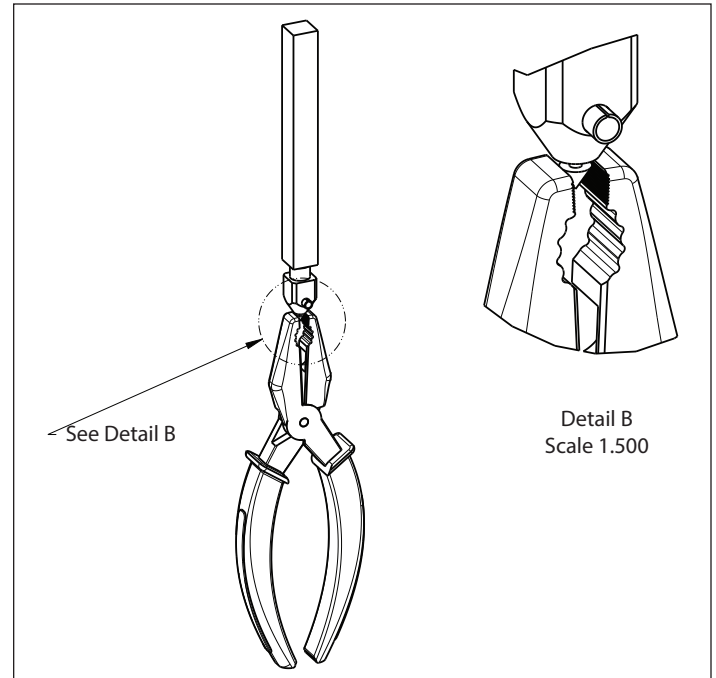

Figure 7. Removing the Point with Pliers.
- A. Grip the removable point with a pair of pliers (see Figure 7).